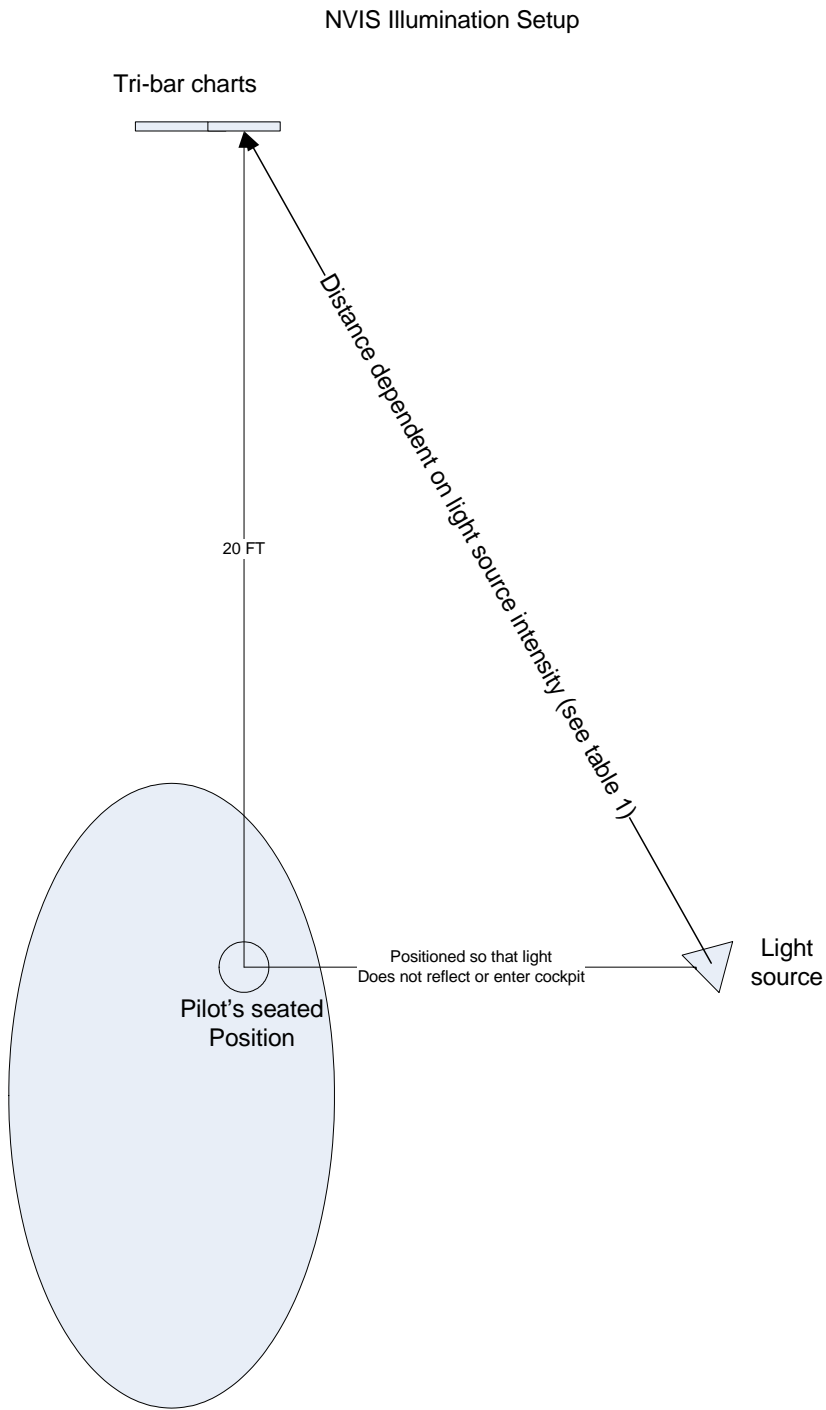

Figure 1 – Target and Illuminator Setup
(5) Connect appropriate ground power unit to facility power and to the aircraft GPU connector. Do not turn ground power on until instructed.
(6) Evaluator must be familiar with A/C switch positions and be able to activate correct switches during a darkened condition (BAT, NAV, COMM, Lights, operating equipment, etc.).
(7) Position on a stand a USAF 1951 Resolution Resolving Power Target Medium Contrast (Tri-Bar) Chart (Air Methods Part Number 738-1999-001) and USAF 1951 Resolution Resolving Power Target High Contrast (Tri-Bar) Chart 20 feet in front of and level with the pilot's eye position (see Figure 1).
(8) A Visual Acuity Chart Illuminator will be used to illuminate the resolution chart. Place the illuminator at the distance discussed in the chart from Table 1. Assess whether or not the light source illuminates or casts shadows into the cockpit. If it does, move it to eliminate any cockpit illumination or shadows.
(15) Set the distance from the Illuminator to the Target by moving the Illuminator to the distance recorded in Step 14 (See Figure 1).
(16) Ensure the target is centered in the illuminated area and that the light does not enter the cockpit or reflect into the cockpit onto the instrument panel. This may be accomplished by observing the cockpit and instrument panel using NVGs.
(17) Allow at least 10 minutes to let eyes adjust to darkness.
(18) Focus NVG goggles per manufacturer's instruction. This is best accomplished using a slightly higher light condition than provided by the illuminator.
(19) Verify NVGs are functioning properly and have no defects that would affect test results.
(20) Stand outside aircraft, abeam pilot position (20 feet from illuminated chart) and focus NVG to obtain maximum resolution on chart (smallest set of horizontal and vertical bars). Record the chart line resolution below: